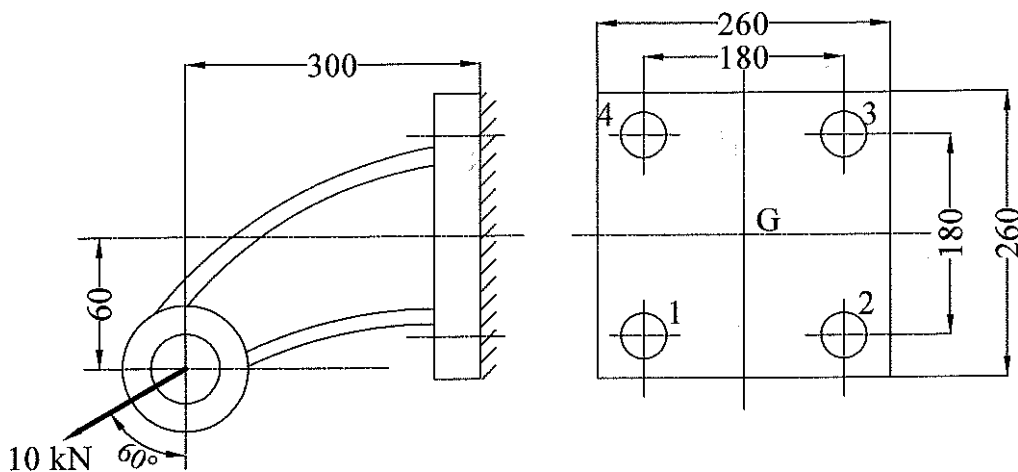

Fig. 3
- b) An off-set column is fixed to steel column as shown in Fig. 3 by means of four bolts. The bracket is subjected to an inclined pull of 10 kN. Determine the diameter of bolts by assuming allowable tensile stress in bolt to be 150 N/mm2. **14**